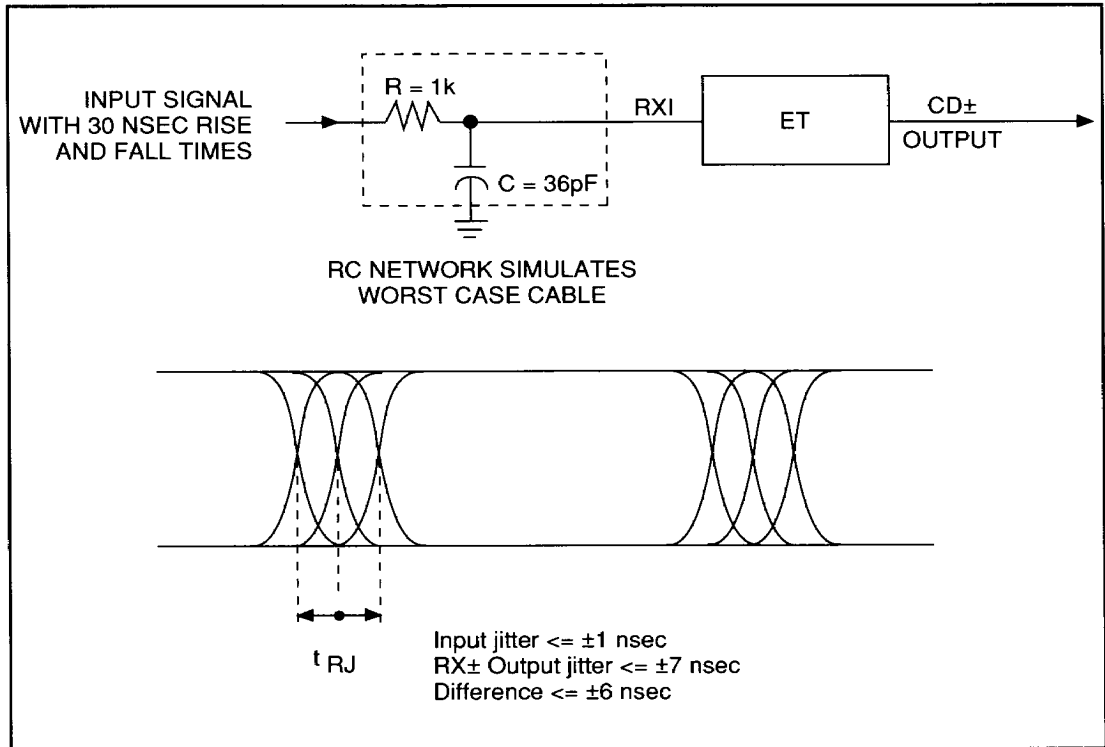

FIGURE C-6. RECEIVE JITTER TIMING
5. Using the test configuration load shown in Figure C-6, jitter is measured at RX± in relation to transmitter edges. The waveform is a 10-MB Manchester-coded signal with an amplitude of 0.749 to 2.6 Vpp. The waveform has a rise and fall time of 25 ± 1 nsec and zero jitter. The DC level is from 0 to 2.6V and does not clip input waveform.